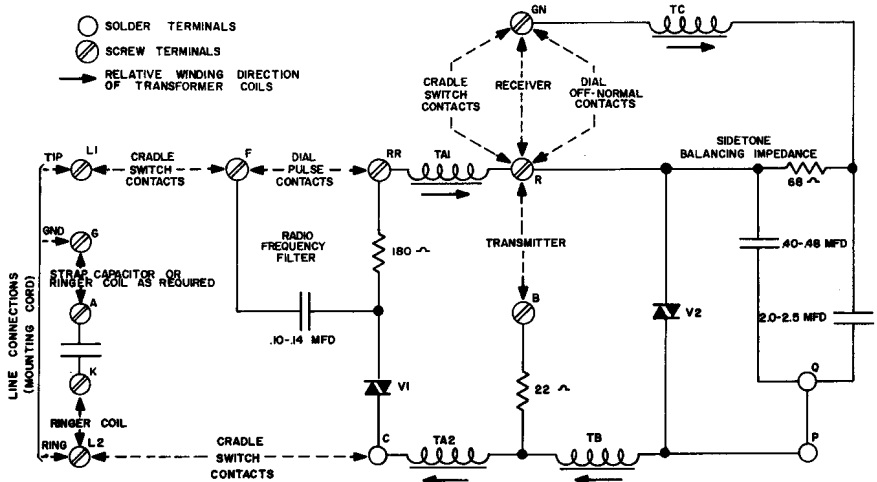
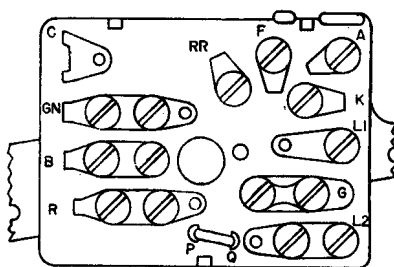

FIGURE 4. CIRCUIT DIAGRAM
FIGURE 5 TERMINAL BOARD LAYOUT
- 6.04 The circuit shown in Figure 4 indicates by dashed lines the typical connections to other components of a complete telephone instrument. The features of the circuit are briefly discussed in the following paragraphs.
- 6.06 The direction of winding of the four coils of the transformer is indicated by arrows in Figure 4. Received speech currents pass via windings TA₁, TB and TA₂, each of which produces an additive voltage in winding TC. The received currents also produce a voltage across the 68Ω resistor that opposes and is almost equal to that produced by the induced voltages in winding TC. There is very little power loss in the resistor and varistor and maximum power in the receiver. The low impedance of the transmitter is matched to the loop by the turns ratio of winding TB to windings TA₁ and TA₂.
- 7.01 Thorough testing of the network assembly can only be performed with elaborate test equipment. An adequate check on performance, for maintenance purposes, is to compare a suspected unit with a known good unit by substitution. Resistance and capacitance checks can be carried out between many of the terminals, as can be seen from Figure 4. Note that the soldered connection between terminals P and Q can be opened to permit testing of the two network capacitors. Figure 5 shows the layout of the terminal board of the assembly.
TABLE 1: POINT TO POINT TEST VALUES (Fig. 5)